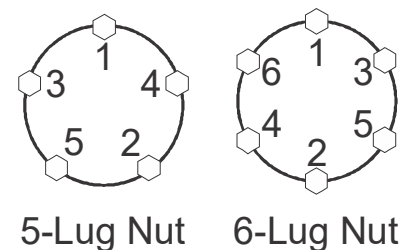

FIG. 3-1
6. Tighten bolts or nuts in the sequence shown for Wheel Torque Requirements as shown in FIG. 3-1.